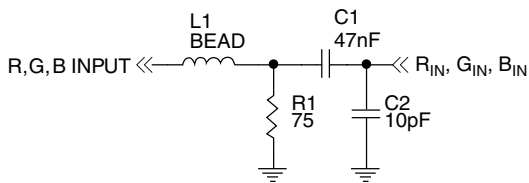

Figure 25. RGB Input Filter Option
5. If necessary, limit bandwidth by adding a ferrite bead in series with each RGB input as shown in Figure 25. A Fair-Rite #2508051217Z0 is recommended. Alternatively, bandwidth reduction using a shunt  $10\text{pF}$  capacitor may reduce snow (intensity noise) caused by HF noise riding on the RGB input. Mismatches, reflections and noise may cause ringing or distortion of the incoming video signals.